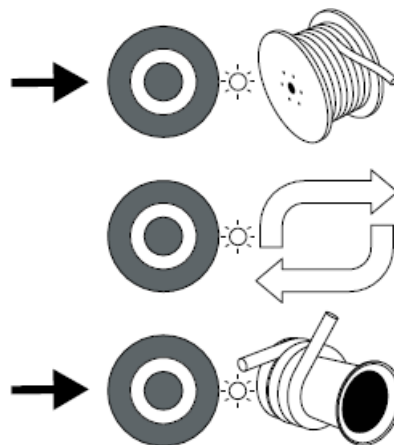

Figure 10
6. When the Mode Select LEDs next to the Mode Select Buttons start flashing white, select Puller or Feeder endpoint indicated by the icons (Fig. 10).